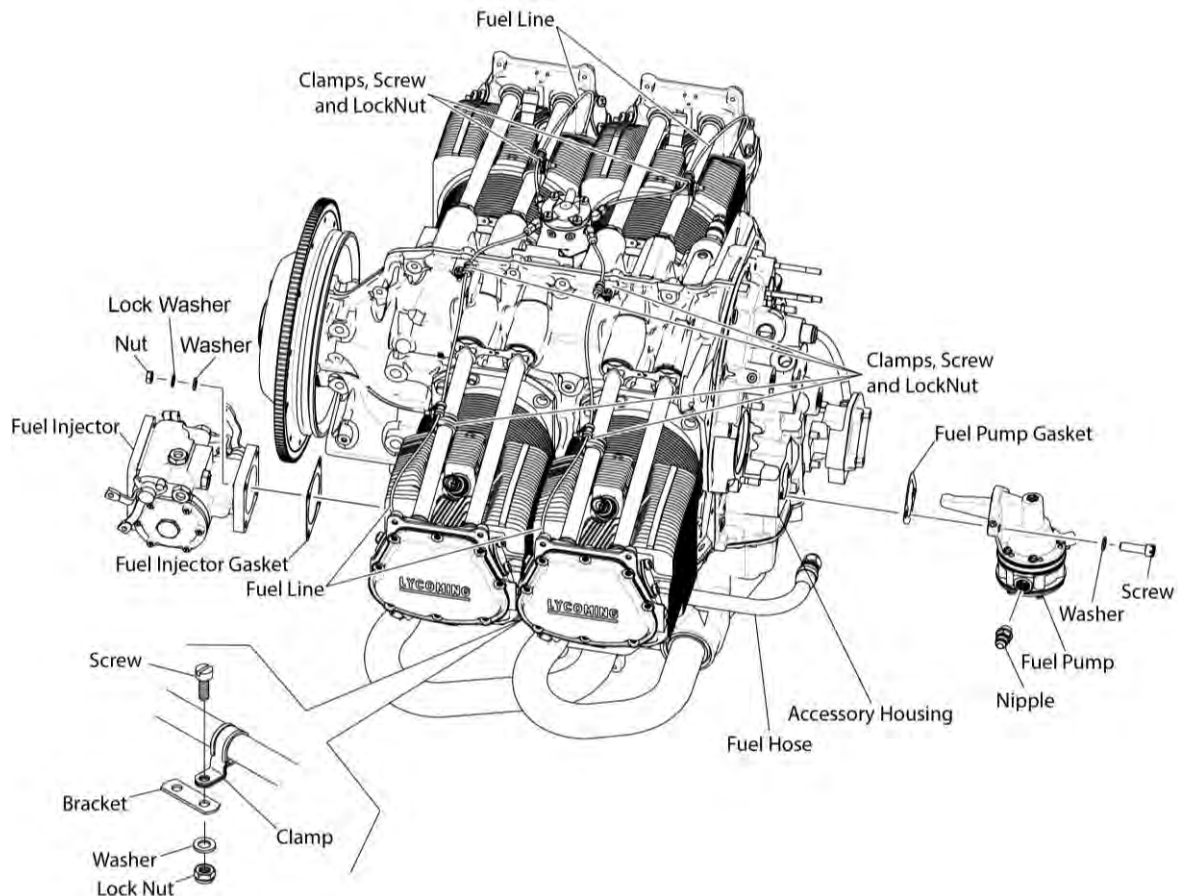

Figure 1
- (1) Put a fuel collection container under the fuel line (Figure 1) at each fitting connection.
- (2) Make a sketch to identify clamps that attach to brackets for reference on assembly.